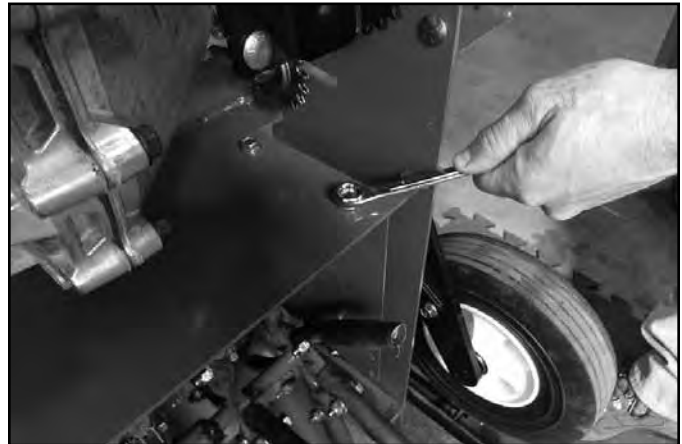

Fig. 147
9. Remove all of the chain guard bolts (Fig. 147).